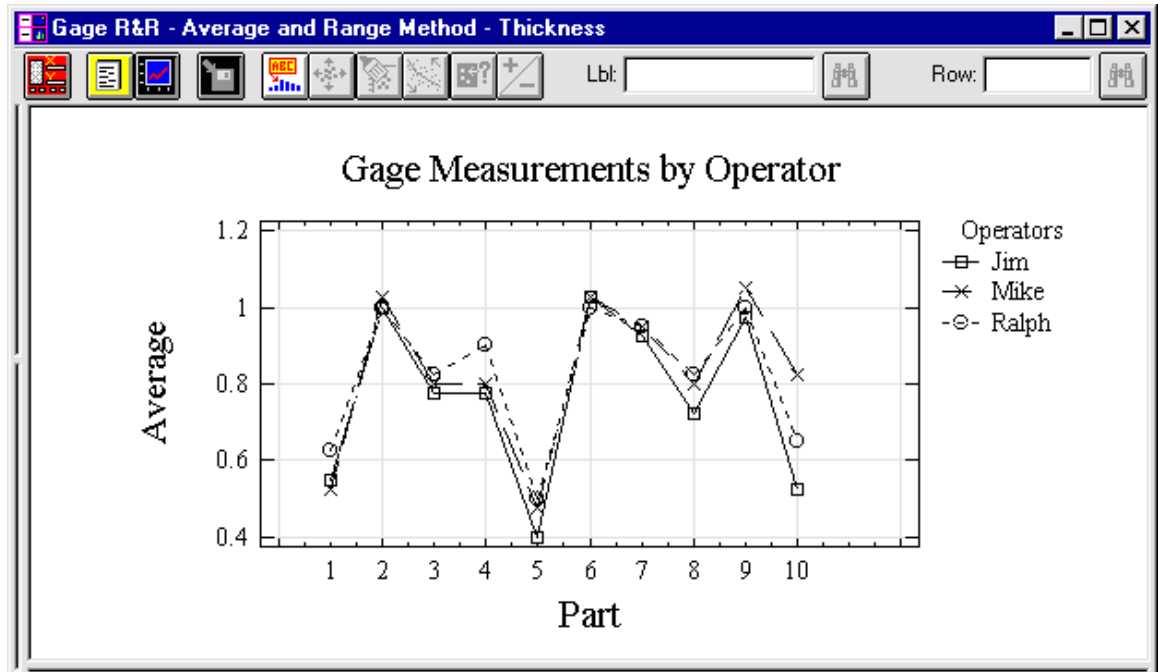

Figure 3-8. Operator and Part Plot
15. Click OK to display the three plots in the Analysis window. Look at each one separately by maximizing it (see Figures 3-8, 3-9, 3-10).
The Operator and Part Plot in Figure 3-8, shows the difference in the measurements taken by each operator on the same part. The differences are the reasons for reproducibility taking up such a large percentage of the tolerance and process sigma.